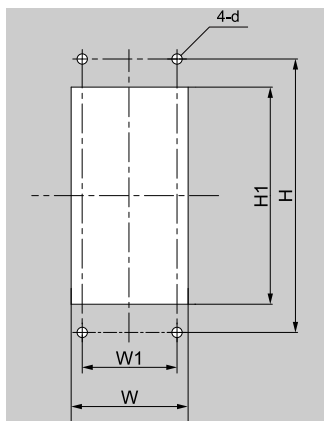

Figure 2.15 Panel Cut-Out Dimensions to Attach Inside Control Panel
- Use the dimensions in Figure 2.15 and Table 2.11 to cut an opening in the control panel for the keypad.